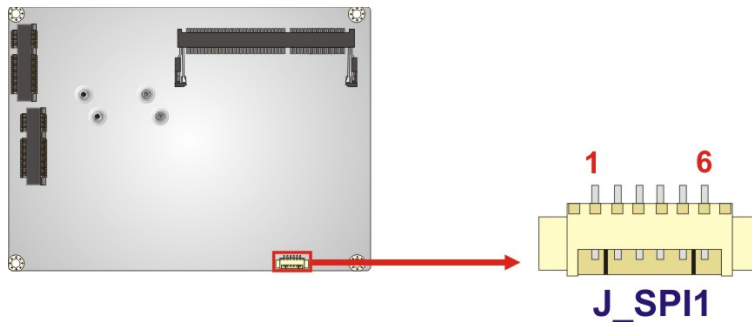

Figure 3-23: SPI Flash Connector Location
- CN Location:** See Figure 3-23